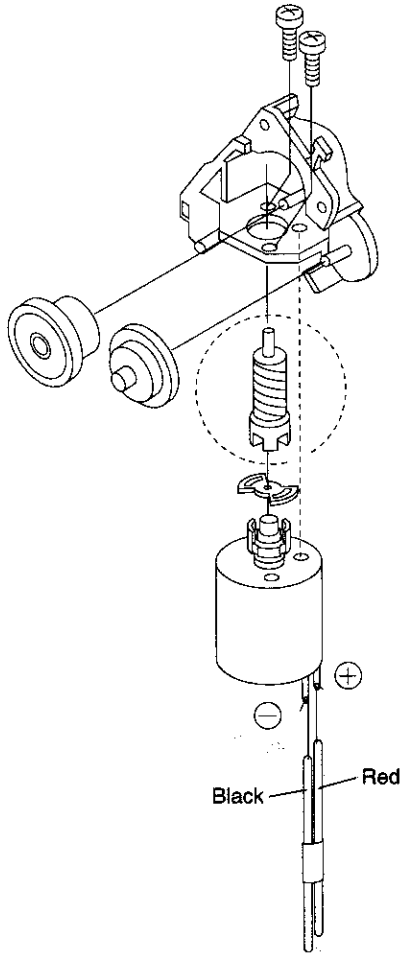

Figure 4-44.
- ① Take out the old loading motor. Place a replacement loading motor as shown above (Figure 4-44).